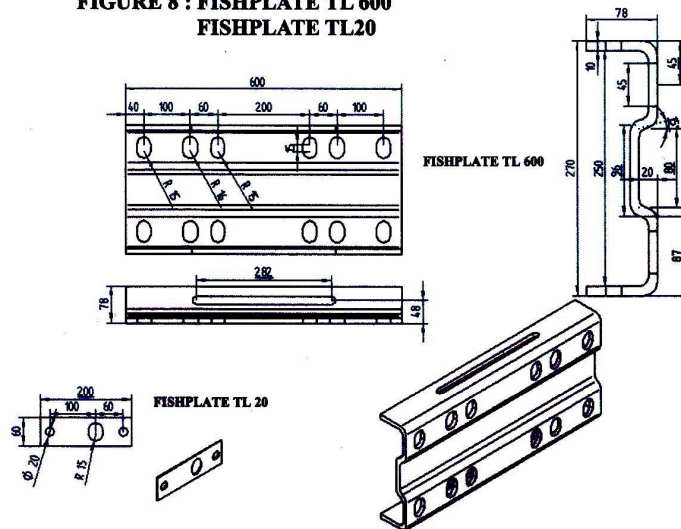

FIGURE 9 : INTERMEDIATE FISHPLATE TI600
- INTERMEDIATE FISHPLATE TI 600 is a press-broken steel 270 x 10 x 600 mm in length with 4 vertical and 2 horizontal oblong holes. Figure 9